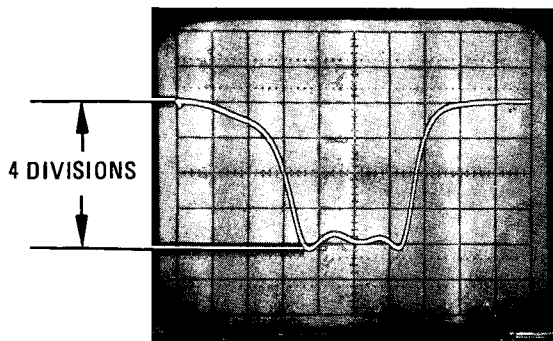

Figure 5-53. YTF Passband Display
4. Perform corresponding **YTF** tracking adjustment to center passband (10 dB points) on spectrum analyzer CRT display (Figure 5-53). Ensure that at least 25% of passband is on each side of center vertical graticule line.